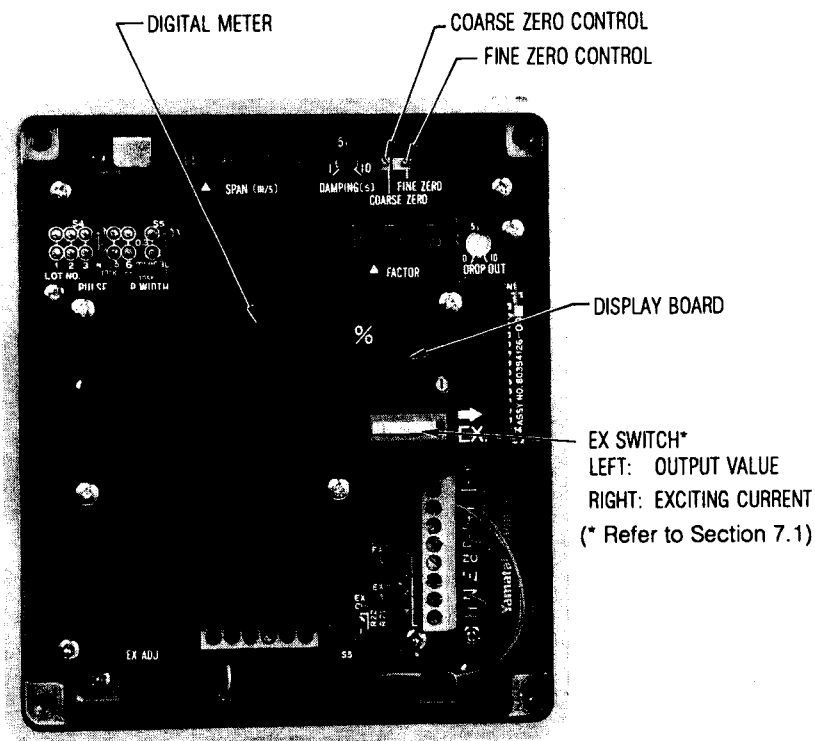

Figure 6-1. Zero Adjustment When Display Board is Provided
- (a) When the display board is provided (see Figure 6-1), adjust the FINE ZERO control so that the average value of digital meter reading becomes 00.0%.
To check the exciting current, through the EX switch (refer to Figure 6-1) to the right-hand position so that the digital meter indicates the exciting current (mA). When no display board is provided, adjust by item 2).